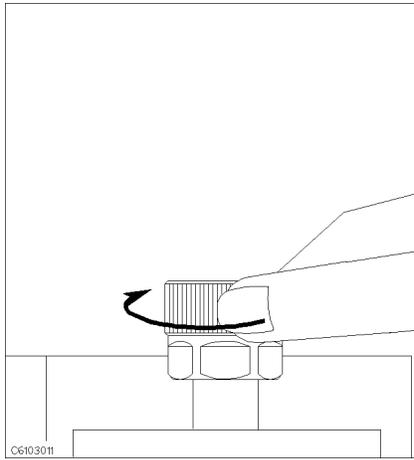

Figure 3-5.
4. Turn the APC-7[®] connector on the test head as shown in Figure 3-5.